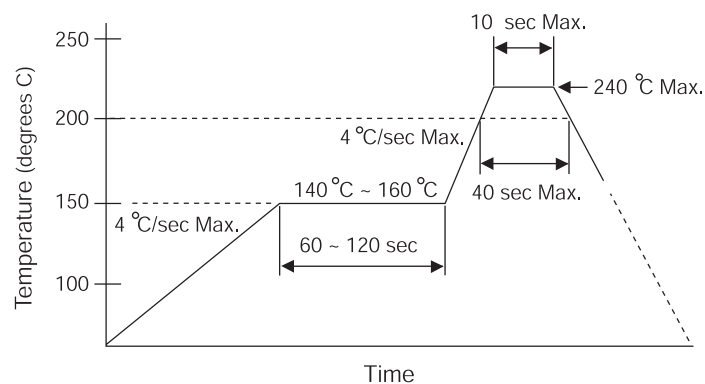

Figure 9. Temperature Profile at the Top Surface of ZHX1810
- The temperature profile at the top surface of ZHX1810, shown in Figure 9, is recommended.